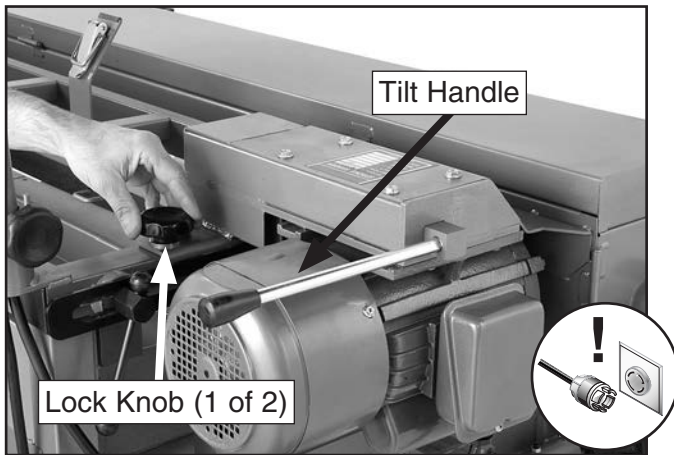

Figure 42. Tilt lock handle and lock knobs.
7. Loosen the belt tilt lock handle and remove the two belt tilt lock knobs (**Figure 42**).